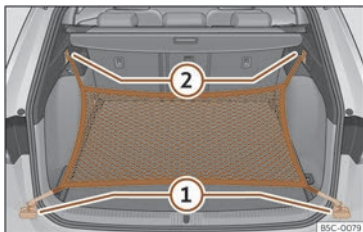

Fig. 187 In the luggage compartment: rings ① and hooks ② for attaching the net bag.
- Secure the short net hooks to the fastening rings >>> Fig. 187 ① >>> ⚠. The bag zip should be facing upwards.
- Secure the straps in the bag hooks ②.